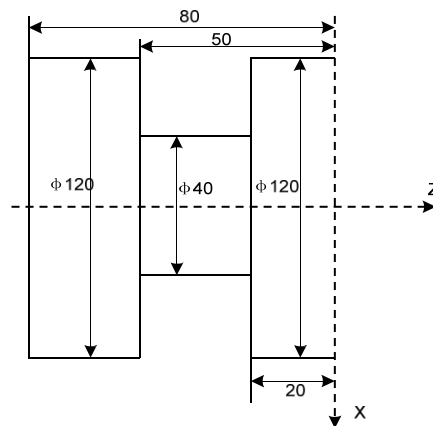

Fig. 3-37 G75 cutting
- $\Delta$ d and e are specified by the same address R and whether there are X(U) and P( $\Delta$ i) words or not in blocks to distinguish them;
**Example :** Fig.3-37